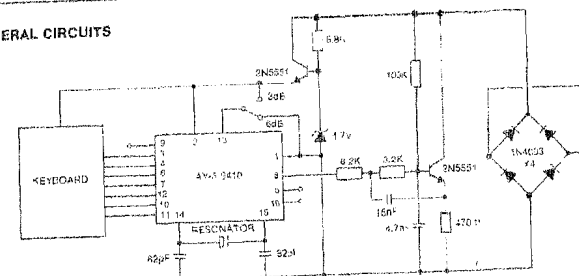

Fig. 1a HIGH IMPEDANCE BUFFER
A low pass filter buffer amplifier is used to remove switching noise and interface the tones to the line. There is an option of either a low impedance or a high impedance output (see figs. 1a and 1b).
- The output would be buffered to drive the line, the buffer can be arranged to have either a high impedance current output or a low impedance voltage output (See Figs. 1a and 1b).